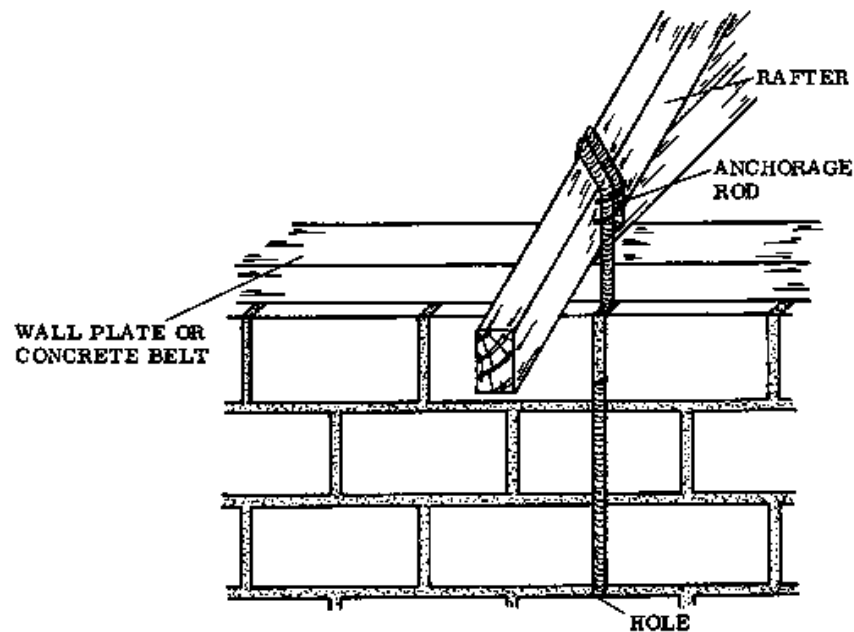

Fig. 3
- With the second method, the rod is inserted through a hole chiselled in the bed joint of the third course from the top, after the wall is complete. The ends of the rod are bent up and over the tie beam and rafter, overlap each other, and are secured on both sides with nails (Fig. 3).